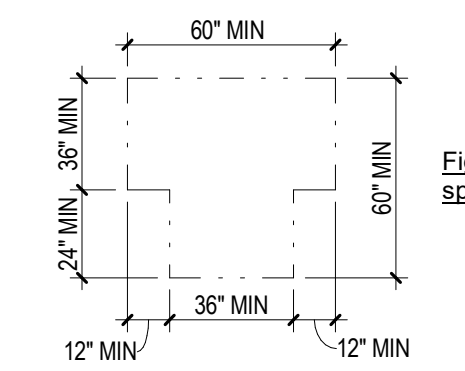

Figure 304.3.2 T-shaped turning space
D. The T-shaped turning space shall be a T-shaped space within a 60" square minimum with arms and base 36" wide minimum. Each arm of the T shall be clear of obstructions 12" minimum in direction and the base shall be clear of obstructions 24" minimum. The space shall be permitted to include knee and toe clearance complying with 306 only at the end of either the base or one arm. (Fig. 304.3.2)